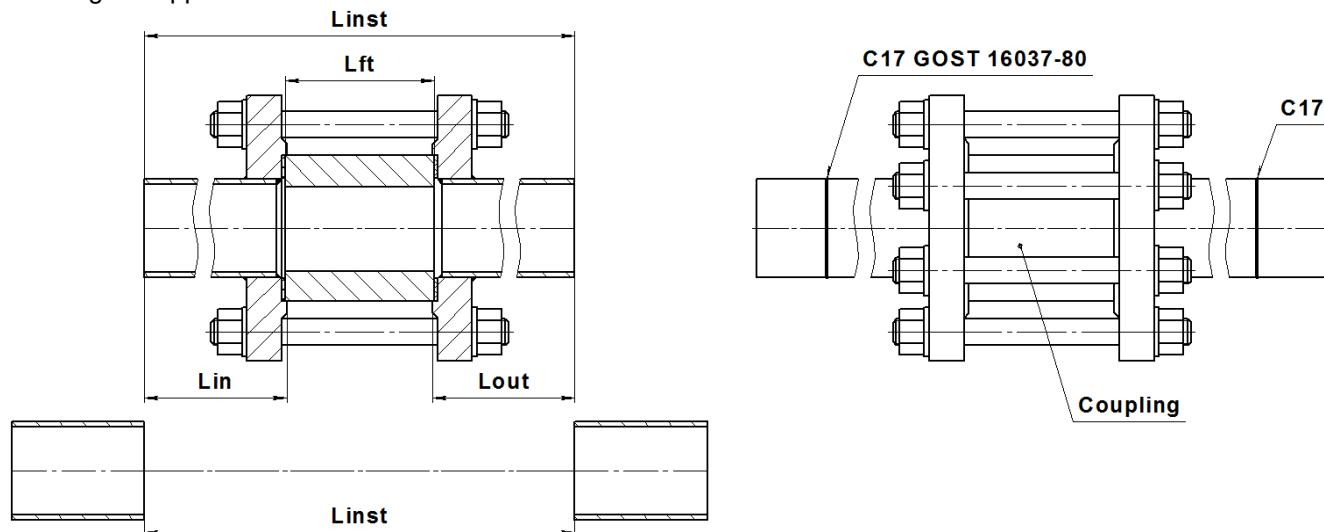

Figure 2.10 - Installation of coupling with straight sections
- 2) cut off pipeline section of L_{inst} length (figure 2.10).
- 3) use studs and nuts to assemble straight sections and coupling and weld them to the pipeline as shown in figure 2.10.